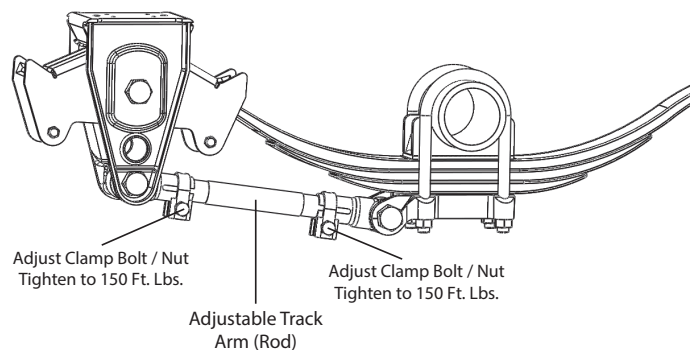

Figure 1
Loosen the clamp nuts at each end of the adjusting bolt so the adjusting rod can rotate (see Figure 1). Align front axle with the king pin or coupler and adjust rear axle parallel to the front axle. Be sure to secure the clamps on the adjustable track arm after alignment (see Figure 1).
1. Loosen the adjustable track rod clamp bolts (Figure 1) and turn the center rod to adjust as necessary per above.
2. After adjusting, tighten the adjustable track rod clamp nuts (Figure 1) to proper torque. Recheck measurements and readjust as needed.